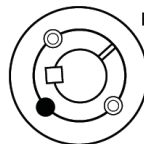

Figure1
3. "LIGHTLY" oil set screws and thread into those half-threaded holes indicated by ○ on Figure 1.
2. Insert set screw in hole indicated by ● on Figure 1. Loosen bushing by tightening set screw.
3. To reinstall, complete all six (6) installation steps.